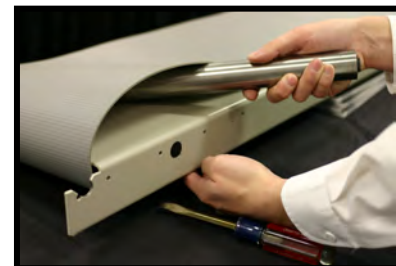

Figure 3
c. Remove the Tail Assembly from inside the Frame (**Figure 3**).